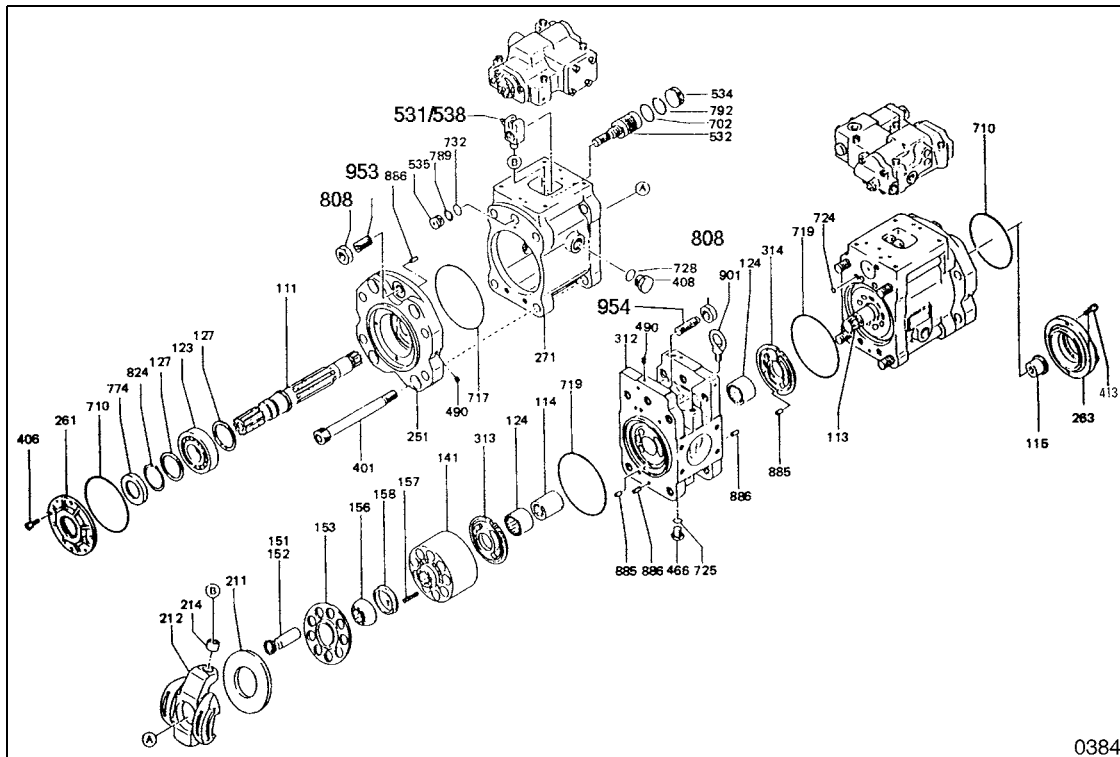
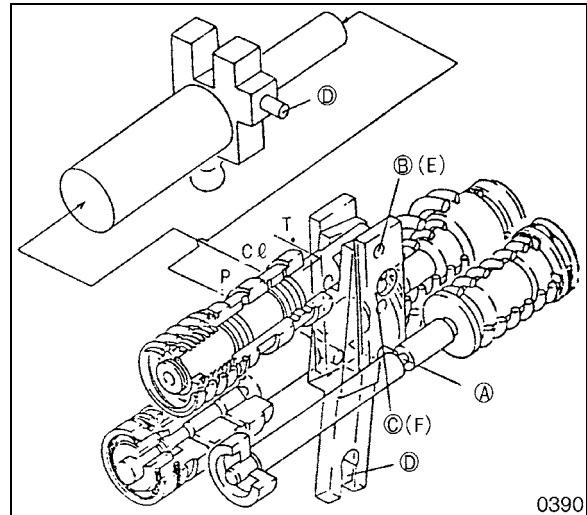
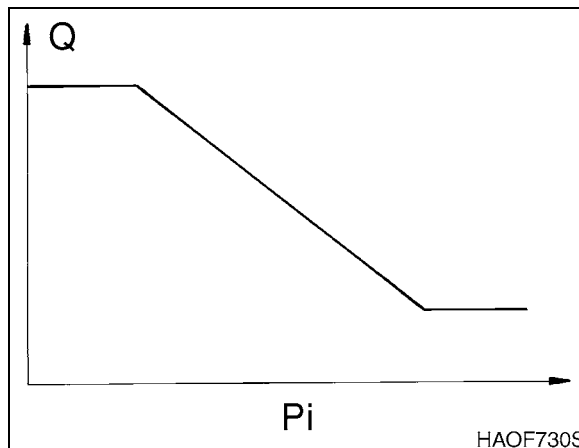
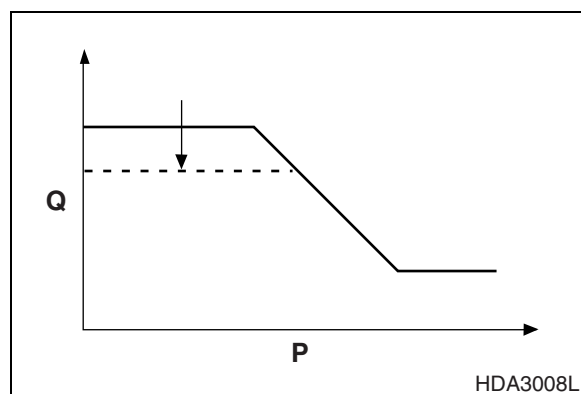

Figure 1
Figure 6
Figure 7
Figure 10
A regulator control valve is integrally-mounted to the housing of each of the two variable displacement hydraulic pumps (Figure 1). The regulator valves perform the task of controlling the rate of pump discharge for the main pump assembly. Pump output may need to be varied as a result of increased or decreased work load demand, operator input changes to control lever position and/or to maintain balanced output between pumps, increasing or decreasing the discharge rate at one pump to compensate for the output of the other pump.
The relationship between Pump Displacement Flow (Q on the vertical axis) and Pilot Pressure (Pi on the horizontal axis). Pump output discharge is controlled by increasing or decreasing pilot pump pressure (Figure 7).
When pilot pressure (P_i) increases, the pilot piston (643) shifts toward the right, stopping at that point at which pilot pressure and the force of the return spring (646) cancel each other out. Movement of the pilot piston pushes the pin (875) attached to the feedback lever assembly (613, 611, 897) around the "B-point plug" (614) and the pin (875) on the opposite side of the feedback lever assembly. The pin at the lower end of the feedback lever is attached to the tilting pin of the swash plate (531/538 in Figure 1).
NOTE: *In Figure 6, the circled capital letter "D" at the lower end of the feedback lever shows the approximate location where the assemblies shown in Figure 1, Figure 6 and Figure 8 react as the pin (897) at the top of the feedback lever moves and the piston shifts, maintaining dynamic balance through the valve between pilot pressure (P_i) and discharge output flow (Q) as shown in Figure 7.*
When pilot pressure (P_i) decreases, the pilot piston shifts toward the left and the feedback lever assembly pivots around point "D" (Figure 6), pushing the spool and servo piston left. Swash plate tilt angle is heightened and pump output flow begins to increase as a result. Control movement of the spool and servo piston stops when the feedback lever assembly rotates around point "C" (Figure 6), moving the spool to the right until it slides into the sleeve (651) and oil movement is blocked.
Maximum and minimum discharge flow, horsepower control characteristics and discharge control characteristics can all be modified by changing the position of adjustment screws built into the pump housing (Figure 1) and the end plate of the regulator valve (Figure 8).
Maximum and minimum discharge flow can be modified by loosening lock nuts (808, Figure 1). To decrease maximum discharge flow (by approximately 5.6 l/min [0.025 gpm]), tighten adjusting screw (954) by 1/4 turn. Figure 10 shows the effect of this adjustment on the output characteristics of the pump.